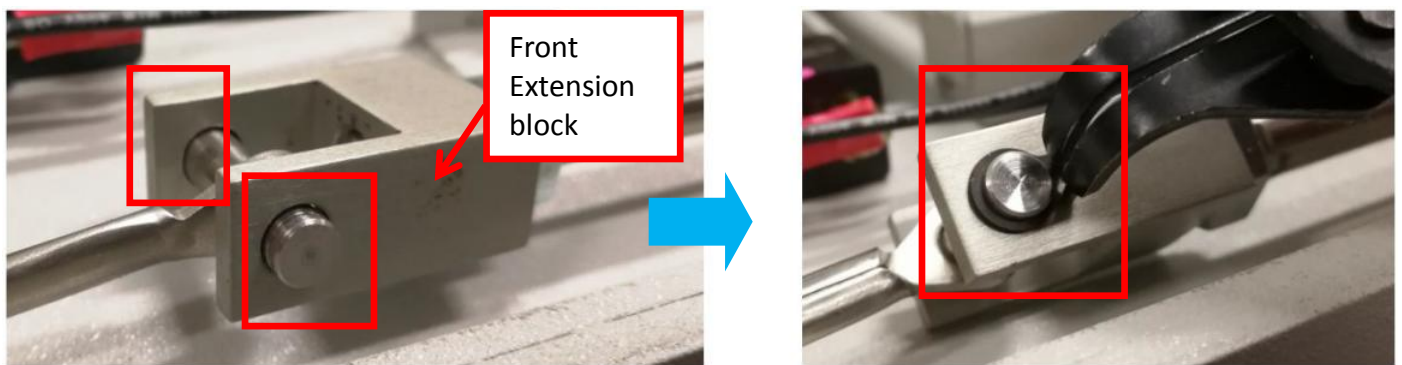

Figure 22
26. By using C-Clip Plier ,slot 2 x C-Clip at both side of dowel pin as Figure 22